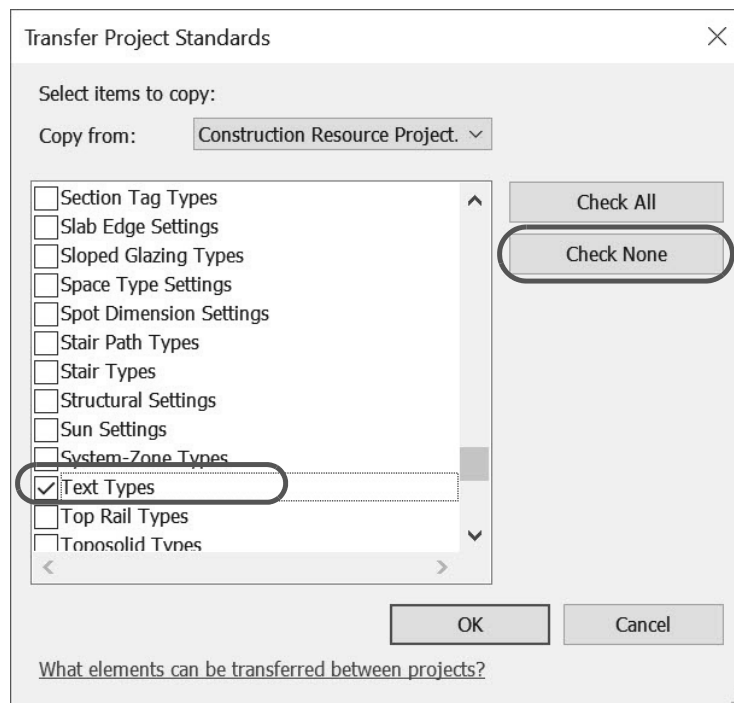

Figure 1–53
5. In the *Transfer Project Standards* dialog box, in the *Select items to copy* area, note that the *Copy from* drop-down list is set to **Construction Resource Project.rvt**, which is the project that was just used for inserting a view from a file. Click **Check None** to deselect everything in the list, then select **Text Types** (as shown in Figure 1–53) and click **OK**.